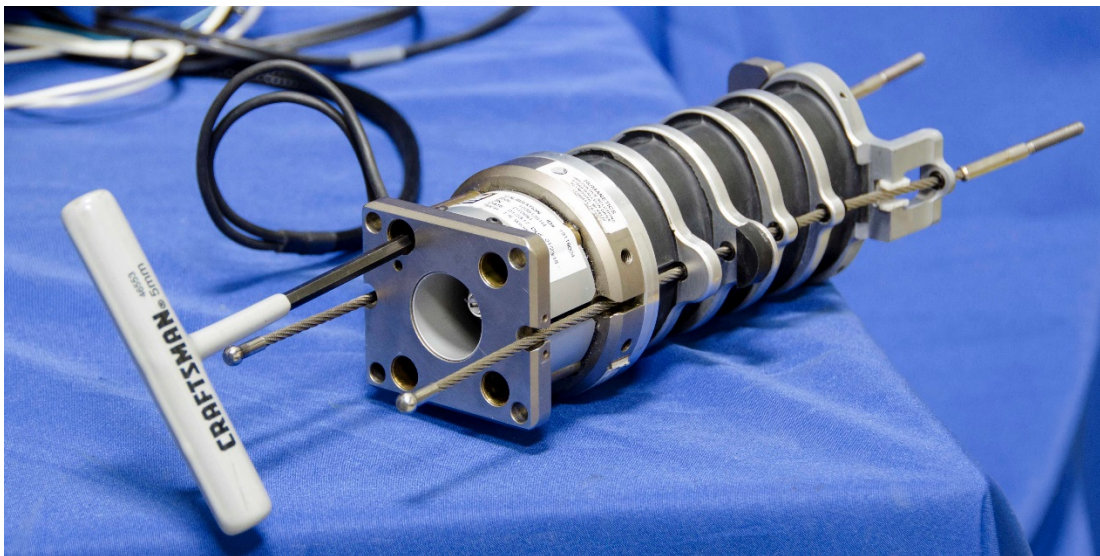
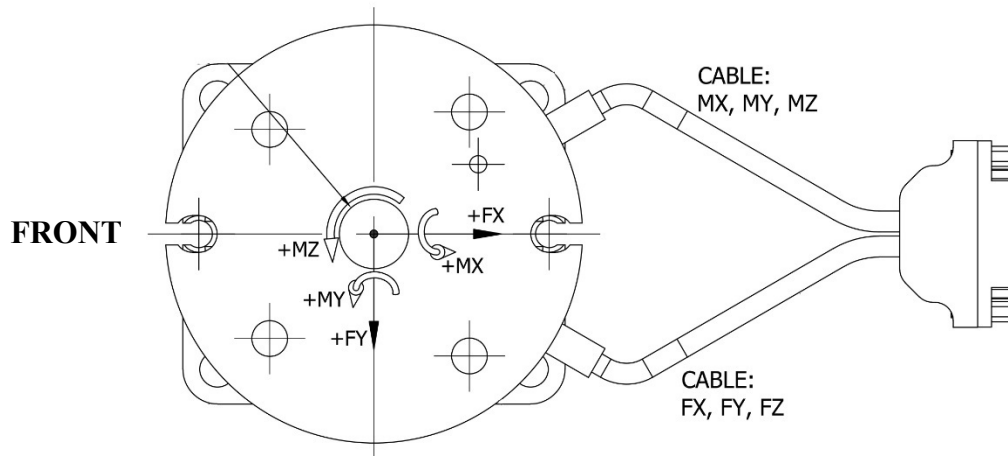

Figure 4-13. Attach lower neck load cell to neck
Figure 4-14. Lower neck load cell (top view)
- 4.2.2.5 Attach the lower neck load cell to the bottom of the neck with the sensor wires toward the rear of the neck using four M6 x 1 x 14 SHCS and M6 hi-collar lock washers (Figure 4-13). Note that the holes at the top-front (cylindrical section) of the load cell are closer together than the rear holes (Figure 4-14).